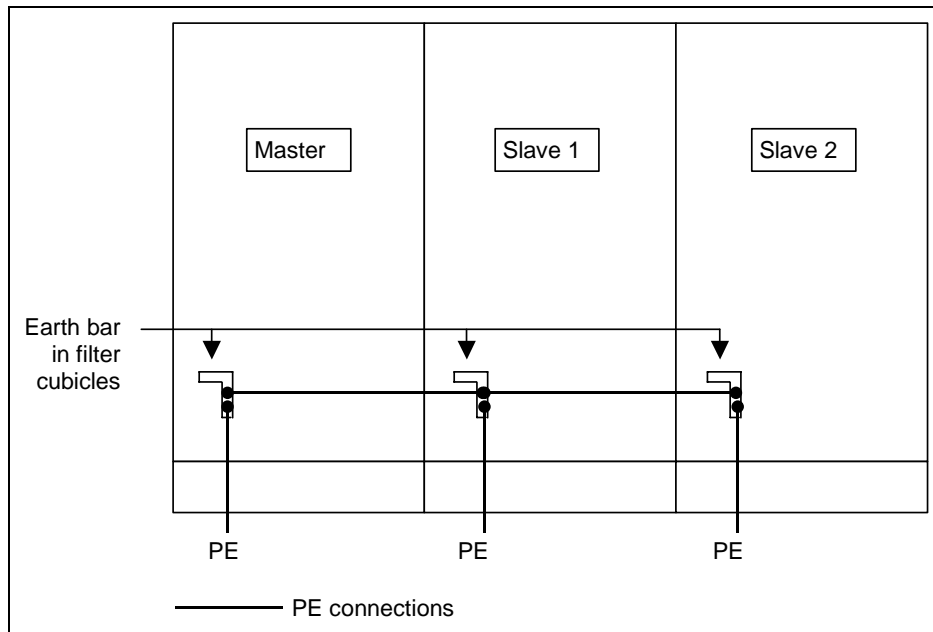
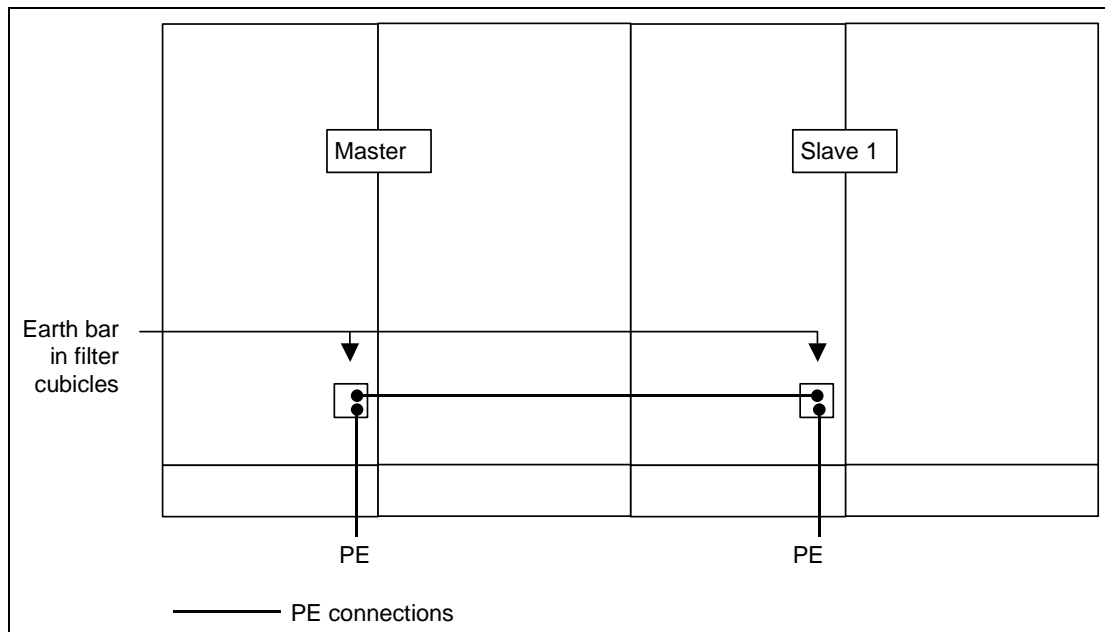

Figure 7.4. Earth connection guidelines for a multi-unit PQFI (CE version)
Figure 7.5. Earth connection guidelines for a multi-unit PQFI (cULus version)
- When the PQFI consists of more than one cubicle, all cubicle's PE-points must be connected directly to the installation's PE-point and additionally all cubicle's PE-points must be interconnected. This is illustrated in Figure 7.4. The same applies also to the cULus version of PQFI as shown in Figure 7.5. Interconnection cable should be minimum 16 mm².